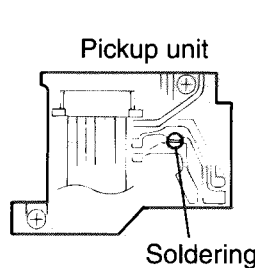

Fig. 2-1
5. Solder the patterns on the pickup unit as shown in the Fig.2-1, and disconnect the flexible wire connected to connector CN1 on the MD servo board.